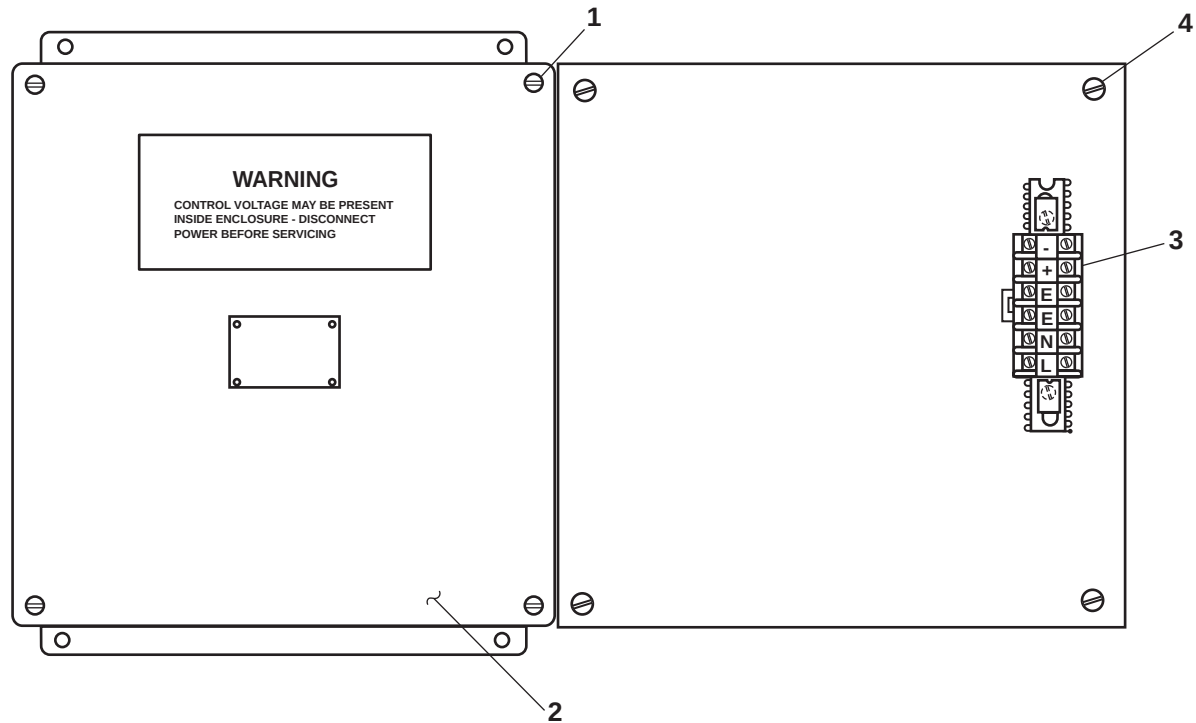

Figure 4. Timer
1. Remove the four screws (figure 4, item 1) that secure the cover (figure 4, item 2) to the timer.
2. Use a multimeter to check for the presence of voltage at the terminal board (figure 4, item 3). If voltage is present, verify that the correct circuit breaker is set to OFF, locked out, and tagged out (FM 55-502). If no voltage is present, continue with the procedure.
3. Label and disconnect the wiring from the terminal board (figure 4, item 3).
4. Remove the four screws (figure 4, item 4) and remove the timer from the bulkhead.
1. Install the timer on the bulkhead and secure it with the four screws (figure 4, item 4)
2. Install the wiring to the terminal board (figure 4, item 3) using the labels from step 3 of Removal as a guide. Remove the labels.
3. Install the cover (figure 4, item 2) and secure it with the four screws (figure 4, item 1).